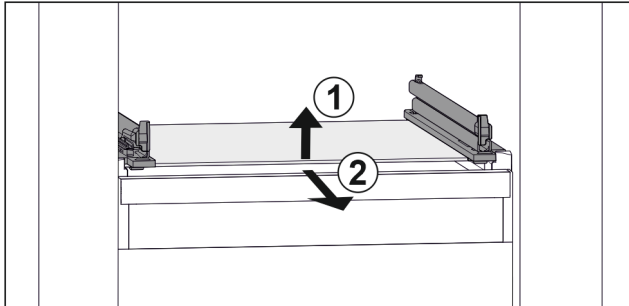

Fig. 37 Example illustration of glass shelf
- ▶ Lift glass shelf at the front. Fig. 37 (1)
- ▶ Remove glass shelf to the front. Fig. 37 (2)